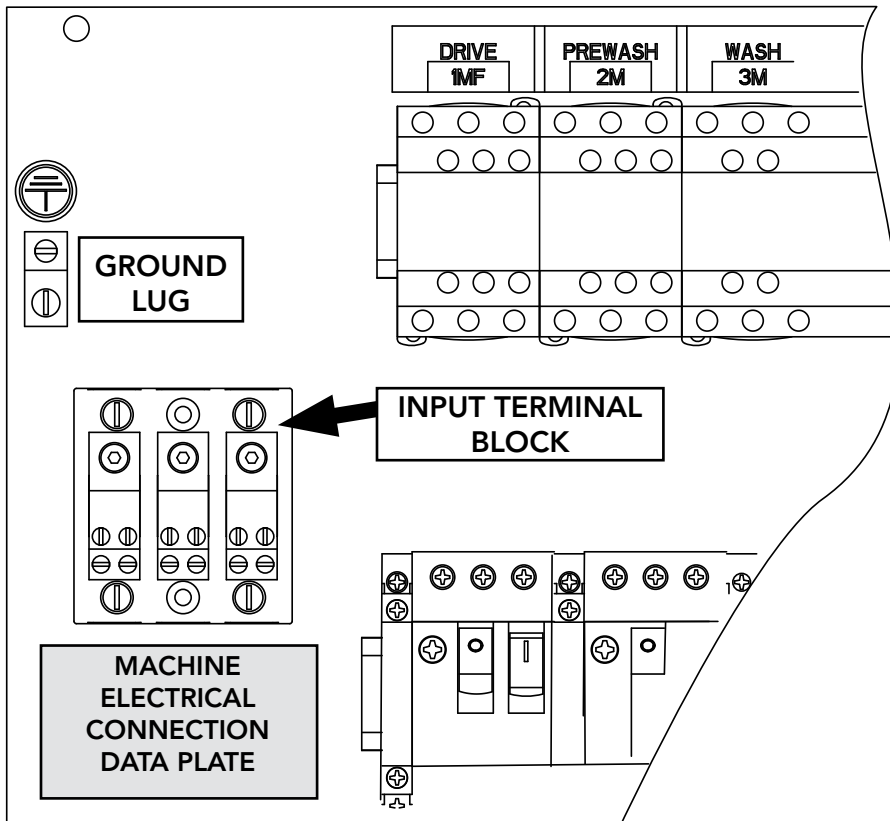

Fig. 23 - Input power block.
- Fig. 23 shows the rotation arrow label on a rear pump housing.